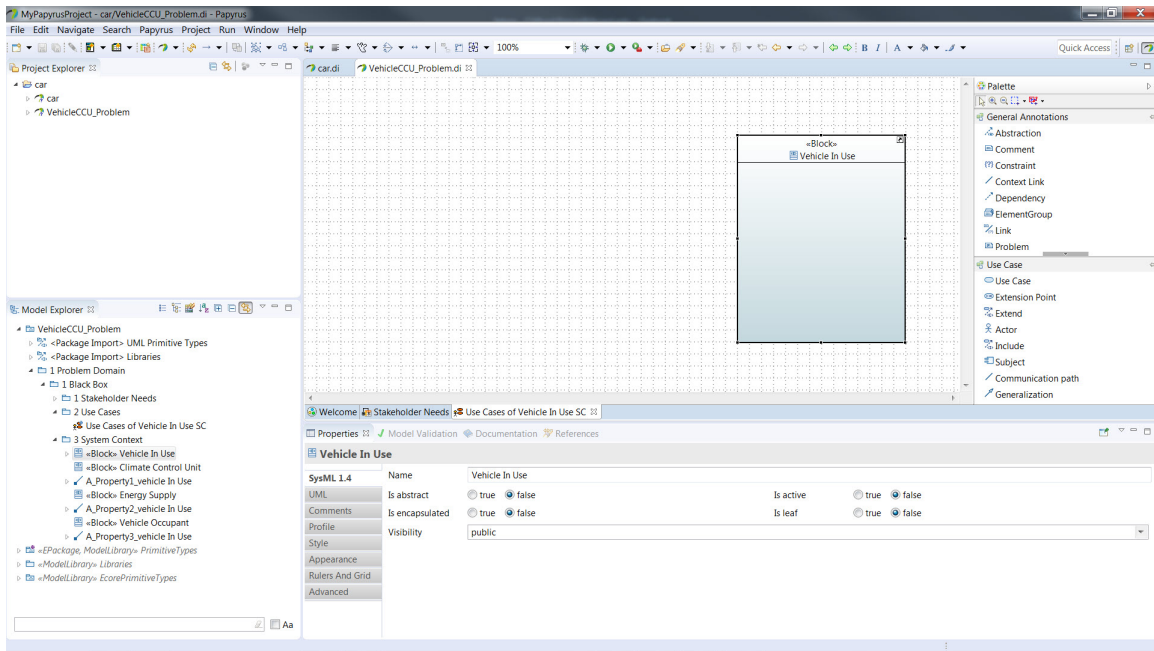

Figure 29: Vehicle In Use block in Use Case Diagram
4. Click and Drag the *Vehicle In Use* block onto the *Use Cases of Vehicle In Use* use case diagram in the main window. A copy of the block should appear in the use case diagram (figure 29).